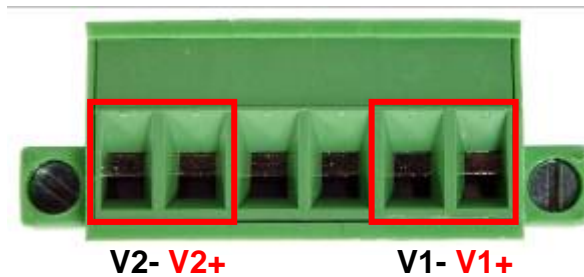

Figure-6: Terminal Block Front View for Power1 & Power2 Contact
1. Insert the positive and negative wires into the **PWR1 (V1+, V1-)** and **PWR2 (V2+, V2-)** contacts on the terminal block connector as shown in **Figure-6**.